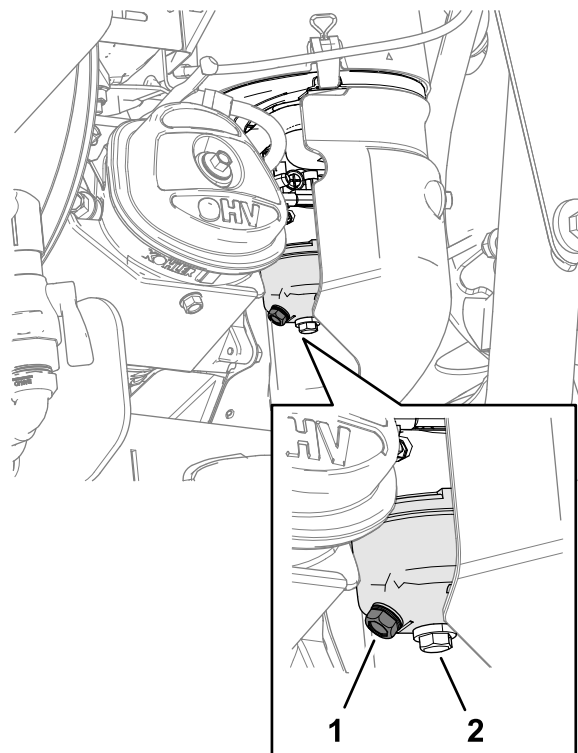

Figure 85
2. Locate the drain bolt that is in the side port of the carburetor bowl (Figure 85).